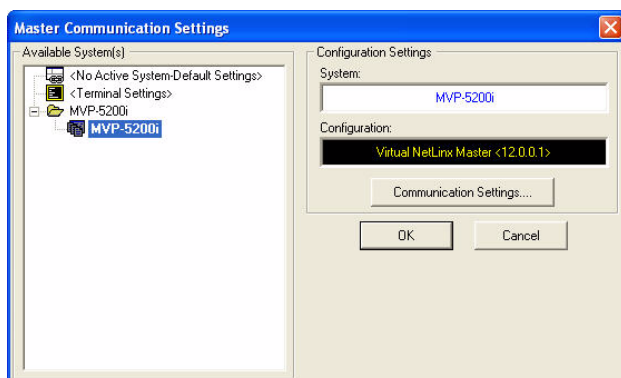

FIG. 103 Master Communications Settings dialog box
1. Launch NetLinX Studio 2.x and select **Settings > Master Communication Settings** from the Main menu to open the *Master Communication Settings* dialog (FIG. 103). If this is the first time the device needs to be configured, refer to the *Configuring Modero Firmware via the USB Port* section on page 186.